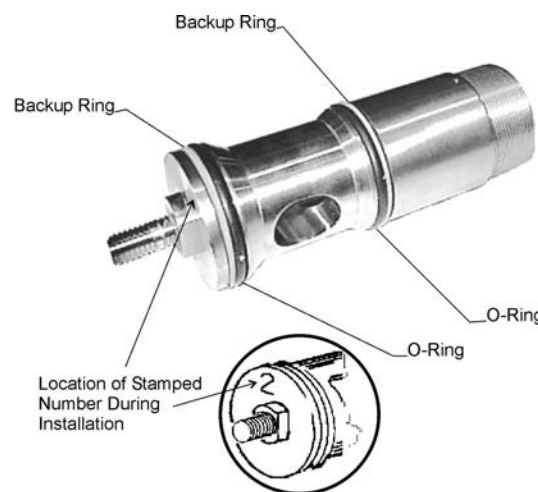

Figure 43 Rings and Cylinder Number Location
4. When installing the cylinder, position it with the stamped number on top. Match this number on front of cylinder with the headblock port number. Use lubricant on the O-rings. See Figure 43